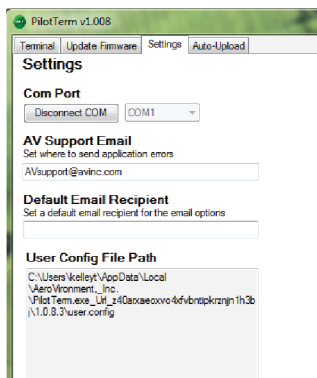

Figure 10: PilotTerm Settings Tab
5. See Figure 10. Start the PilotTerm program and select Settings tab.